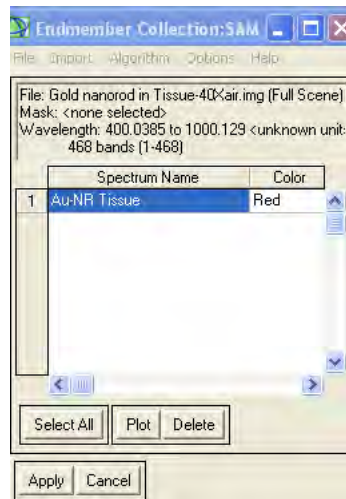

Figure 13. Endmember Collection dialog with entry from label dragged from plot.
11. From the Plot Window, drag the label **AU-NR Tissue** to the Endmember Collection: SAM box. It is highlighted automatically in the list (see Figure 13)